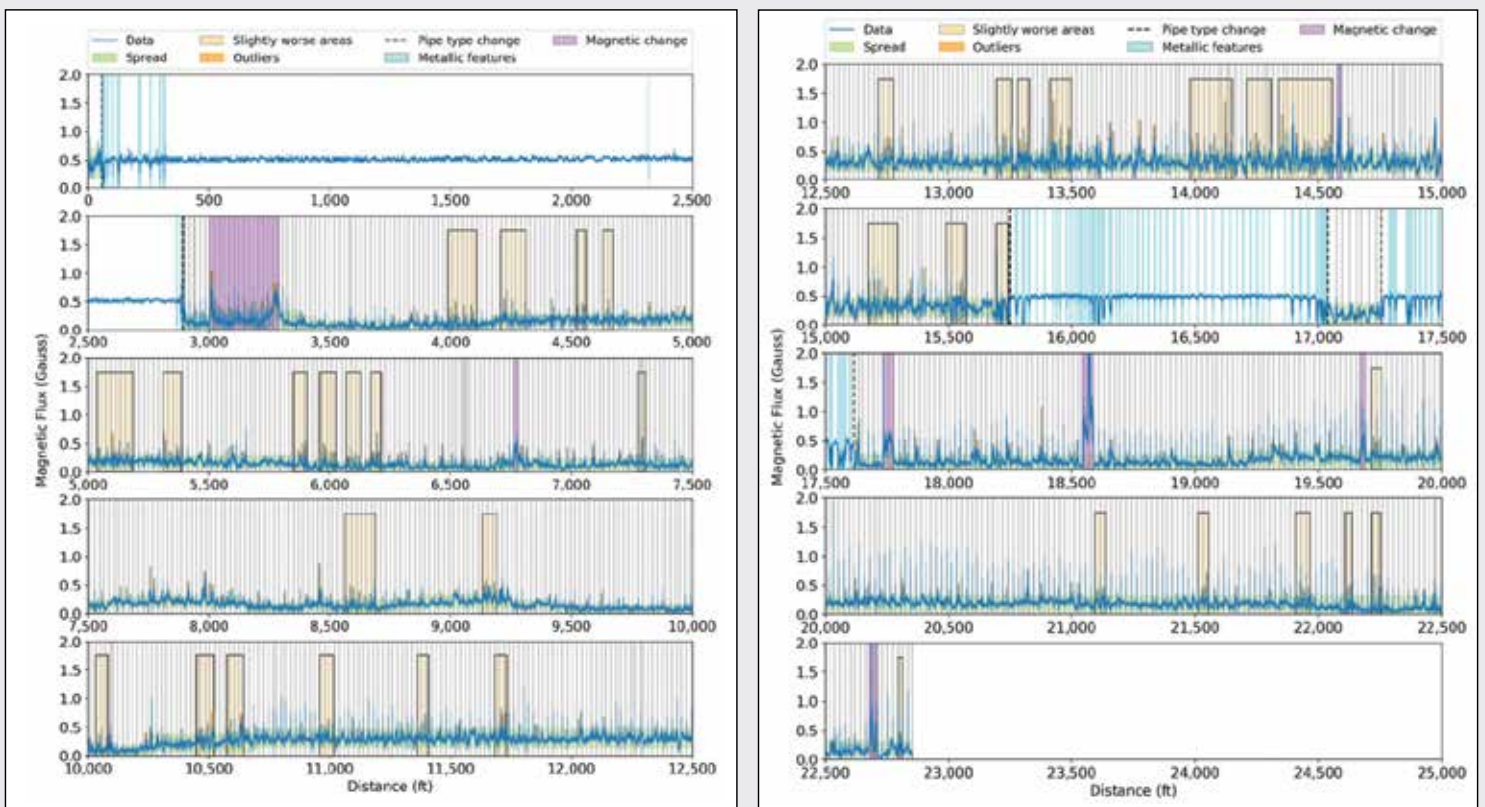

Figure 5. Recon+ Magnetic Analysis Results
The RECON+ magnetic analysis shown in Figure 5 measures residual magnetization using a 3D digital magnetic sensor to determine metal features by determining magnetic flux based on metal volume and the distance between the sensor and metal. Since the RECON+ tool is generally considered a screening tool only, it is only capable of distinguishing magnetic differences larger than 25 percent relative volumetric wall loss. The magnetic analysis of the subject force main overall found that the magnetic flux showed relatively low spread over the entire length of the pipeline which indicates that the pipe overall is in relatively good condition. However, the magnetic flux did identify thirty-six (36) segments that have increased outliers or less homogenous magnetic flux compared to the rest of the pipeline. These are indicators that these segments are in relatively slightly worse condition. Seven (7) segments show changes in magnetic flux structures but are likely to be spool pieces of pipe. Additionally, diameter and material changes and metallic fittings were also identified as part of the magnetic flux analysis which is shown in the output results below along with the identified 36 slightly worse areas.